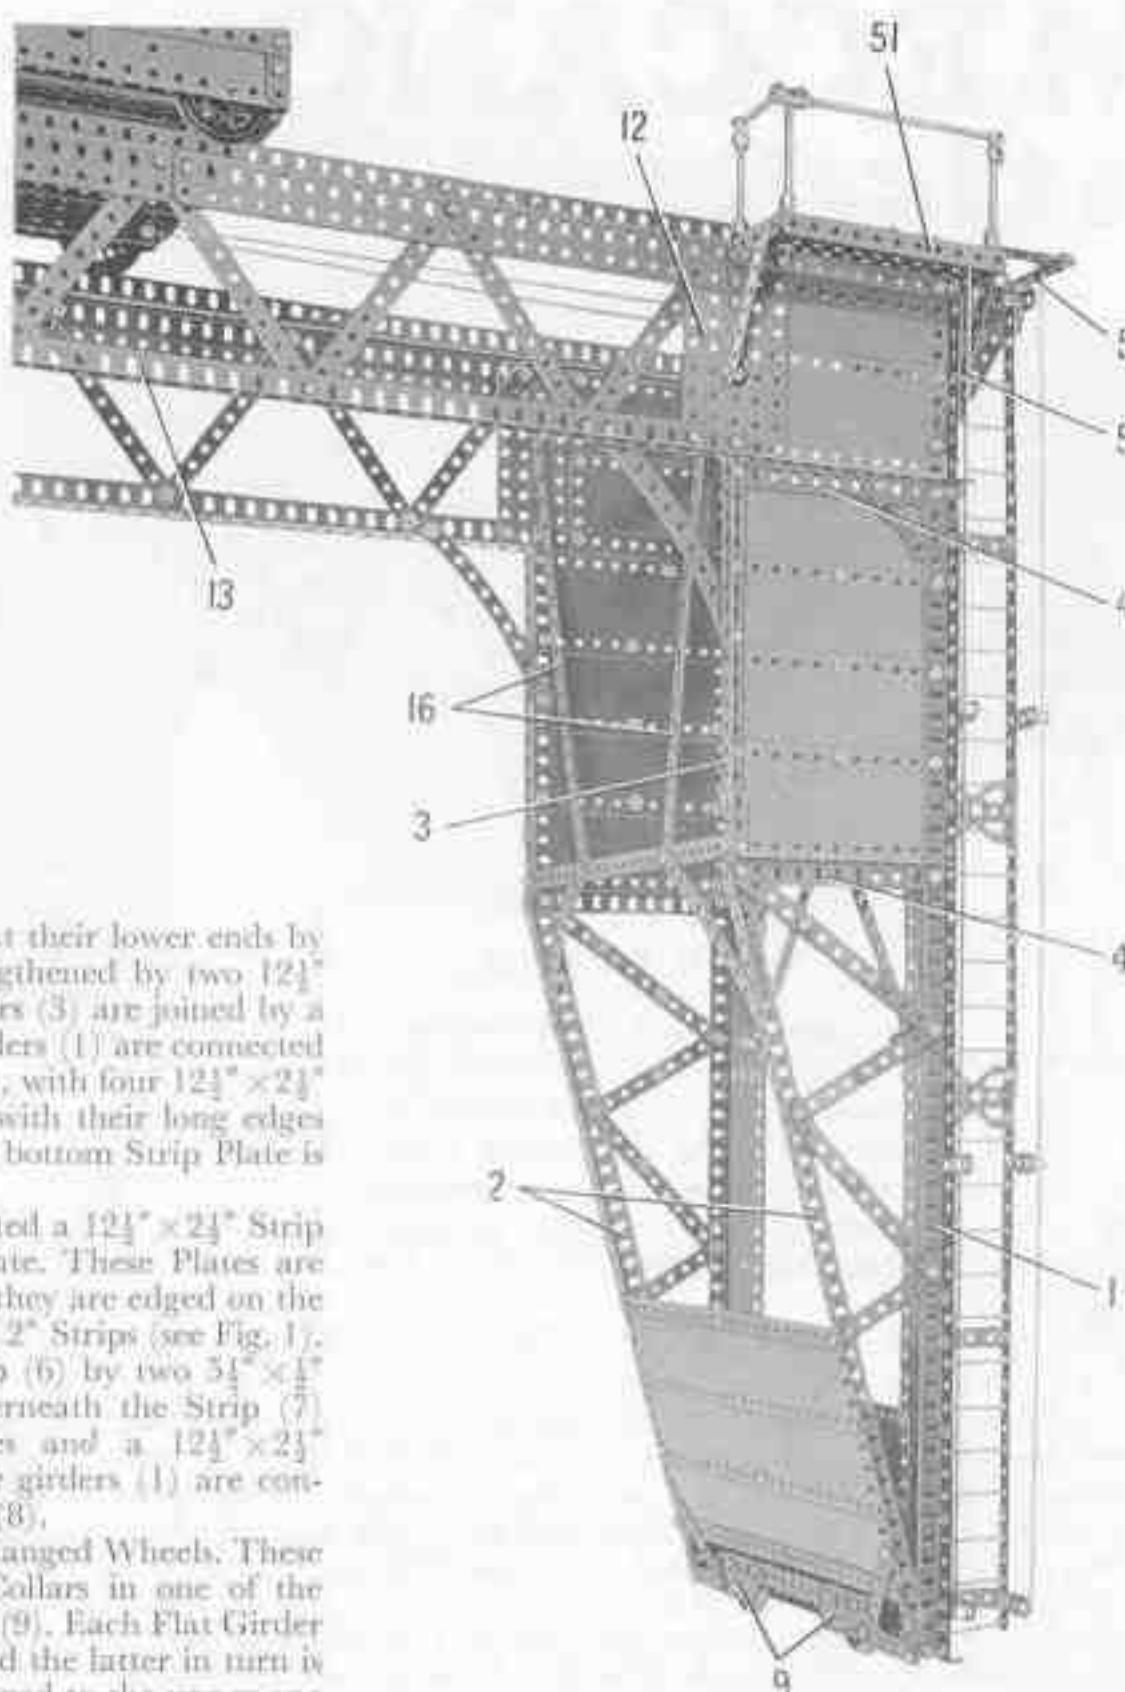

FIG. 2
The towers or legs that support the gantry at each end are similar in construction, and a close-up view of one of them is shown in Fig. 2. The main girders (1) on each side are each made from an $18\frac{1}{2}''$ Angle Girder and a $9\frac{1}{2}''$ Angle Girder overlapped three holes. To the lower end of this built-up girder (1) an $18\frac{1}{2}''$ Angle Girder (2) is fixed, and this is extended upward by a built-up girder (3) made from a $7\frac{1}{2}''$ and a $2''$ Angle Girder. The girders (1) and (3) are connected by $5\frac{1}{2}''$ Angle Girders (4) and four $5\frac{1}{2}'' \times 2\frac{1}{2}''$ Flexible Plates, with the top rear corner strengthened by a Corner Gusset. Bracing strips are bolted between the Girder (2) and the girder (1), as shown.
The Inspection Ladder (Fig. 2)